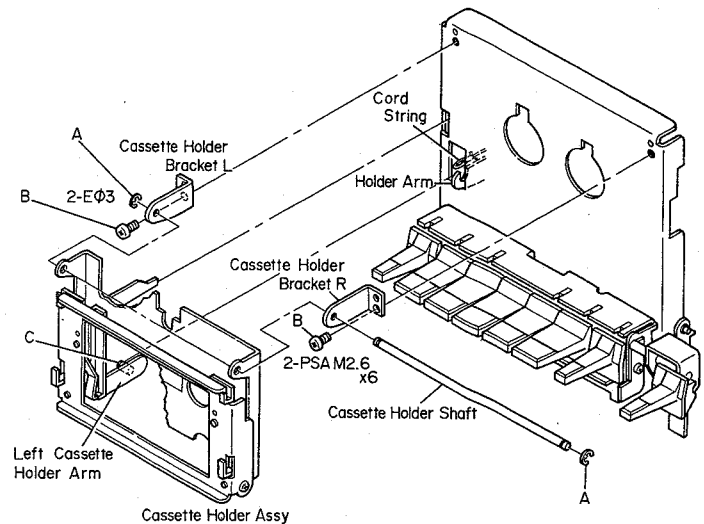

Fig. 4-5 Cassette Holder Ass'y
**NOTE:** Most removal and replacement of such parts as the Reel Table, the Head and the Pinch Roller can be made by partial rotation of the Cassette Holder as described below. In doing this, refer to Fig. 4-5 above.